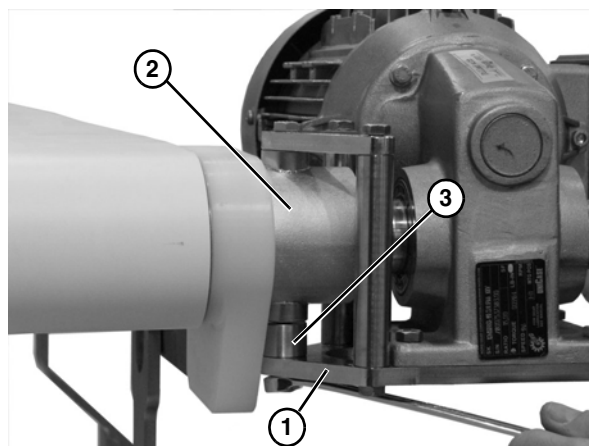

Figure 6
4. Attach the bottom gearhead mounting bar (**Figure 6, item 1**) to the motor mounting bracket (**Figure 6, item 2**) with spacer (**Figure 6, item 3**).